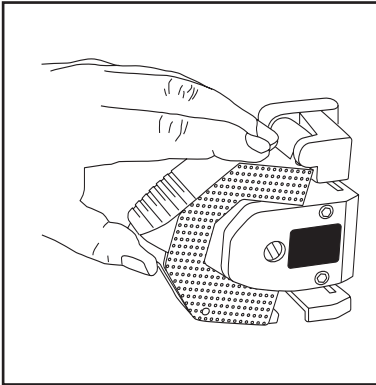

Figure 5-1. Opening the Stator
Follow this procedure (refer to Figures 5-1 through 5-4 and Figure D):
1. Refer to Figure 5-1 and Figure D. Snap open the Stator (1) by pushing the spring-loaded area of the Latch (2). Remove any old tubing from the pump, if necessary.